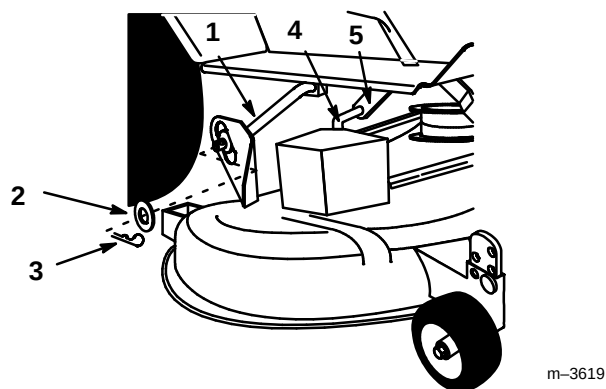

Figure 13
5. Remove 2-9/16" hairpin cotter and 1/2" washer from rear link and remove from attachment lift (Fig. 13).
6. Remove (2) 3-3/8" hairpin cotters and (2) 3/4" washers from rear lift arms (Fig. 13).